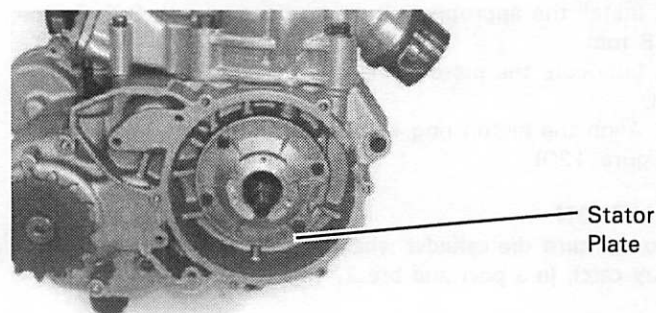

Figure 126
- Install the stator plate (Figure 126) and secure it with the 4 Allen screws and washers. Tighten the screws to 6 N.m (55 in.-lb.).